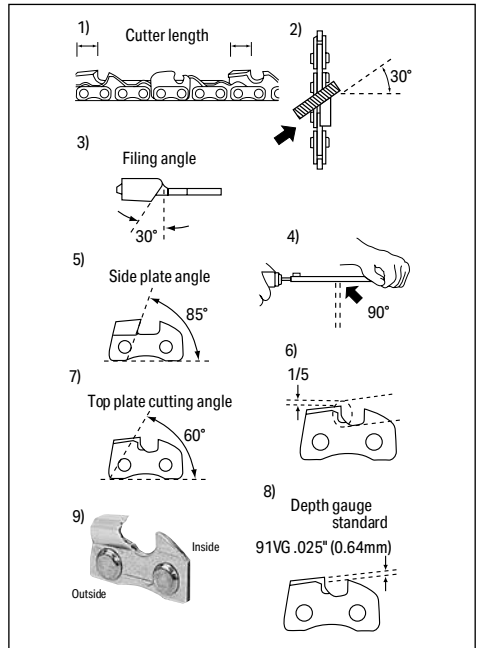

Fig. 25
8.3 Chain Sharpening (Fig.25)
- Ensure that every cutter is filed to the same length and angle and all depth gauge **[28]** links are the same height (**Fig.25 -1**). Inconsistent angles can result in a poor cut or endanger the operator.
- Use a round file specific for the chain fitted – observe the sharpening angles as shown on **Fig.25 (2, 3, 5, 7, 8)**.
- Position the file to project 20% of its diameter above the cutter (**Fig.25 – 6**).